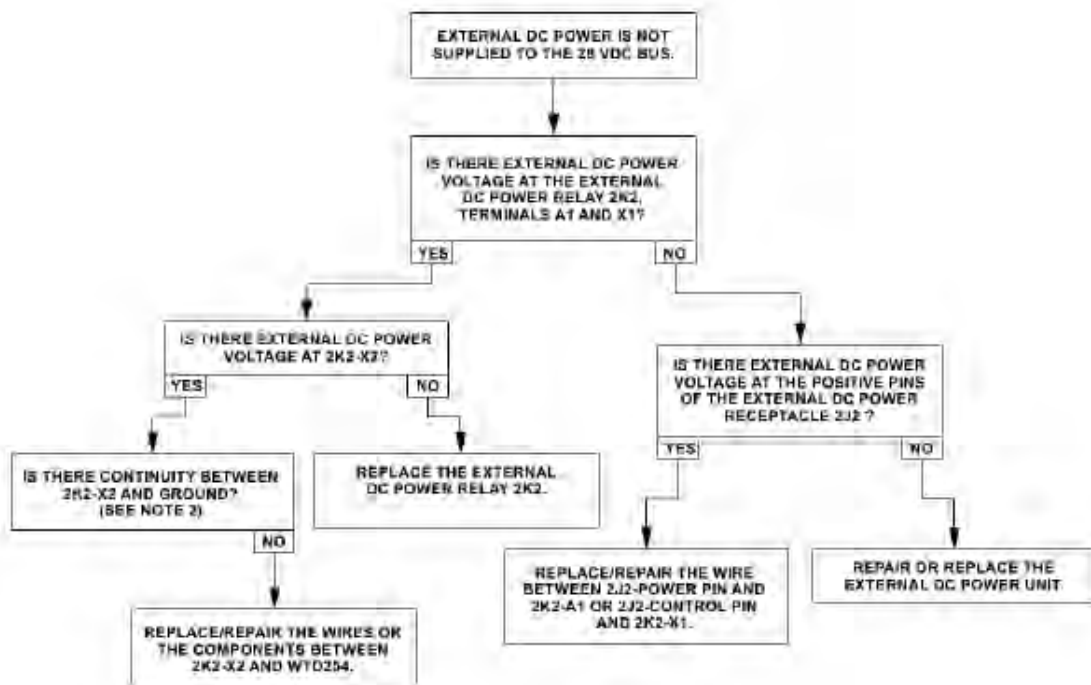

Figure 96-22: External DC Power - Trouble No. 1
- If the voltmeter and warning horns do not operate (external DC power is not connected to the 28 VDC bus), refer to Trouble No. 1 (Figure 96-22).